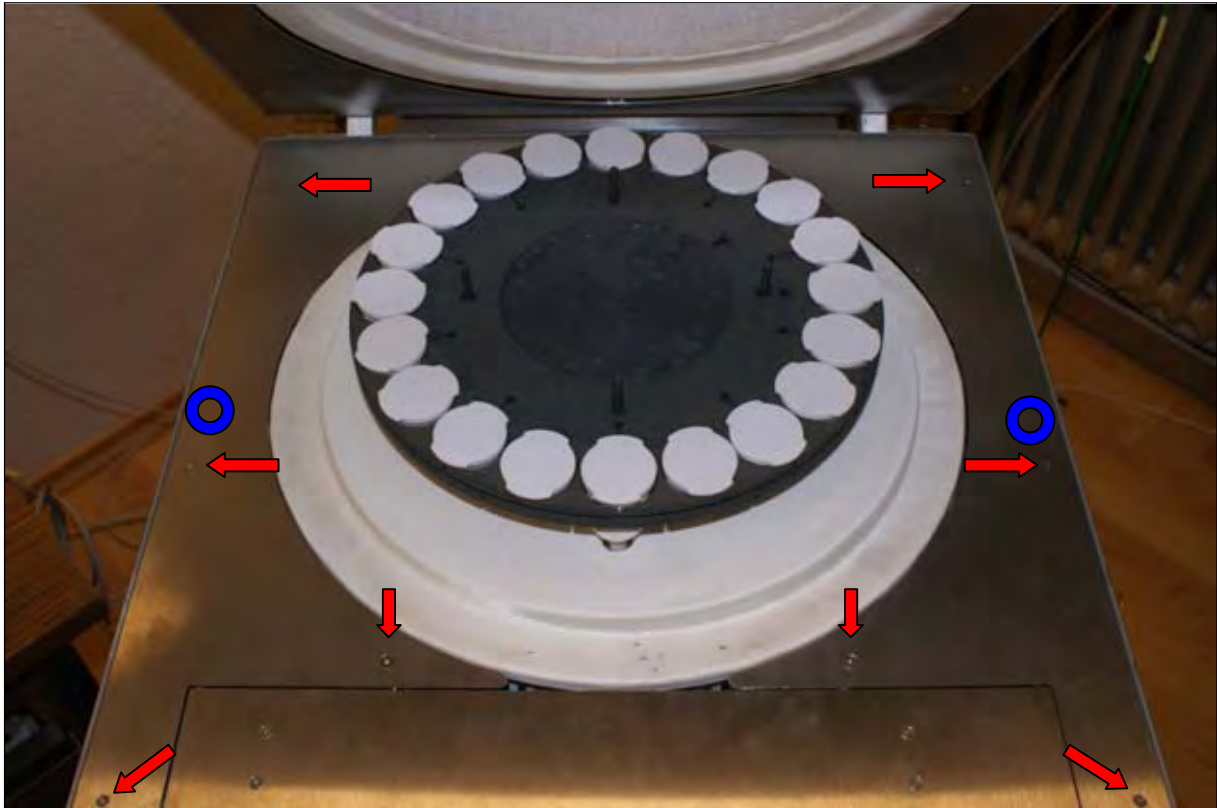

Fig. 1.3.: FI – Steel surround of the lower heating element (screws marked by red arrows; blue spots mark screws below metal sheet)
- d.) Remove the metal sheet round the lower heating element (inside furnace) by loosen 6 x 2,0 mm screws (respectively 3 screws at the left or rather at the right border of the metal sheet) and 2 x 2,5 mm screws in front of the internal blower (see Fig. 1.3).
- e.) Unfasten (not loosen completely!) the 2 x 4,0 mm screws below the metal sheet (see blue spots at Fig. 1.3).